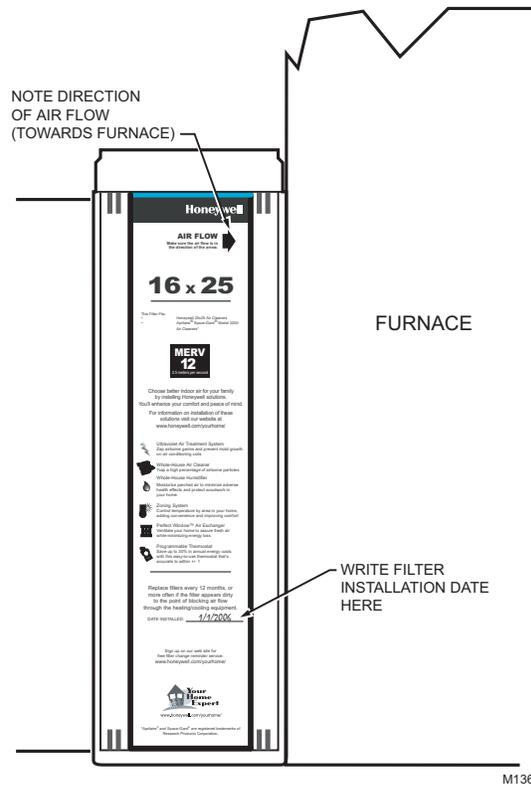

Fig. 2. Filter air flow direction and installation date.
5. Note direction "AIR FLOW" arrow on filter cartridge is pointing. See Fig. 2.
8. Record installation date in the space provided on the replacement filter cartridge. See Fig. 2.